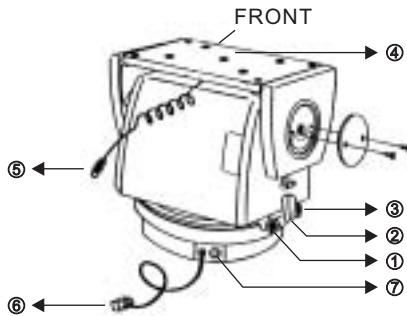

Figure 2
2. To adjust pan limit stops (see Figure 2), loosen screws securing both stops(1) and (3) to unit. Slide stops around unit to desired locations and secure by tightening screw.